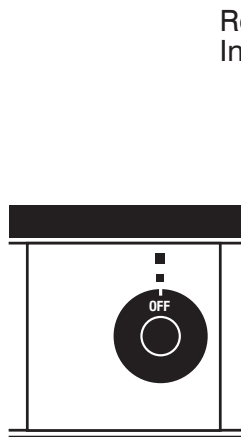

Fig. 1
2. Turn the thermostat to the "OFF" position by aligning "OFF" on knob with the hole in the panel (Fig. 1)